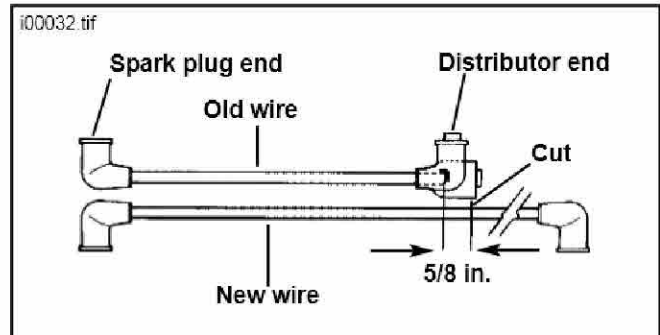

Figure 2. Cutting Wire
2. See Figure 2. Measure an old spark plug wire against the supplied length of wire. Add 5/8 in. to length (to allow for terminal installation) and cut new cable. Repeat for the other spark plug wire using new cable.